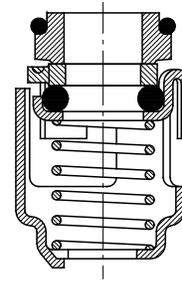

Fig. 48 Shaft seal
As standard, the CRT(E) range is fitted with a Grundfos type A shaft seal suitable for the most common applications, see fig. 48.